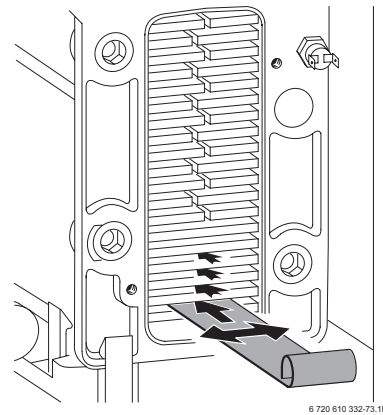

Fig. 50
- Loosen any deposits in the heat exchanger from top to bottom using the cleaning blade. Refer to fig. 50.